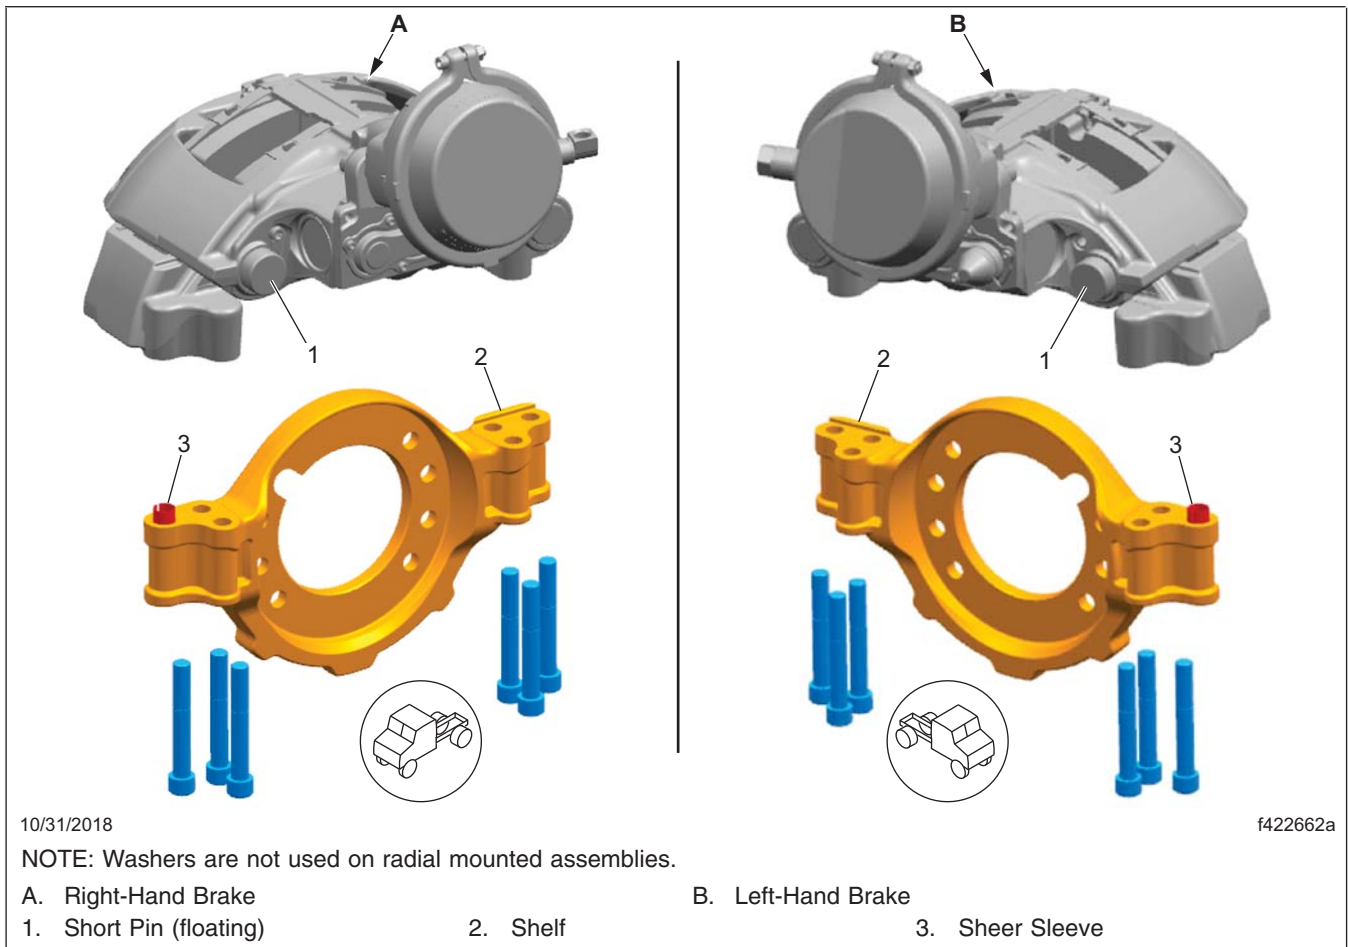

Fig. 4, Bendix Radial Mounted Caliper
- Align each caliper/carrier assembly with the rotor by pushing the fixed pin side of the caliper against the shelf on the torque plate, then install the caliper/carrier assembly using new caliper mounting bolts. See Fig. 4.